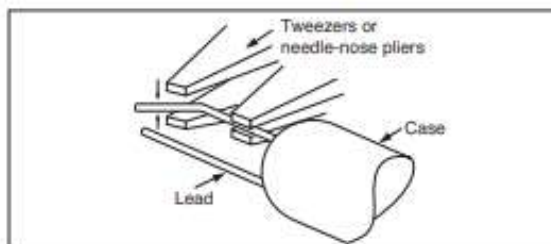

Figure 4
- (2) Unbend the lead by pressing on the bent part from both the upper and lower sides while holding the bottom of lead tightly (see Figure 4).